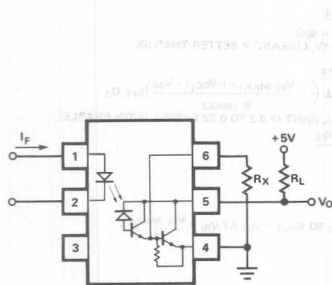

Figure 10. External Base Resistor,  $R_X$
- Use of a resistor between pin 4 and 6 will decrease gain and delay time. (See Figures 10 and 12).